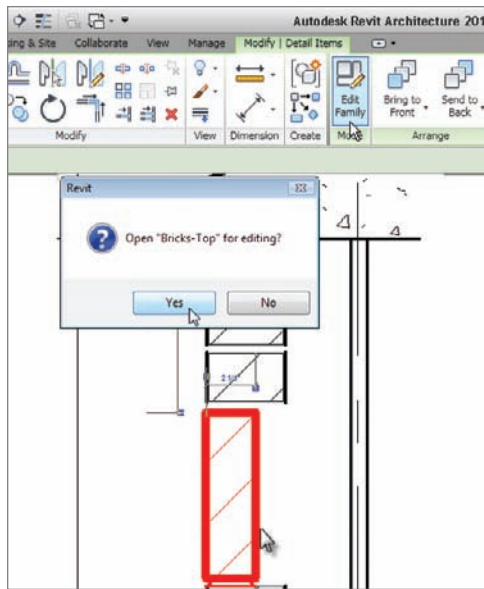

FIGURE 12.16 Click Yes to open Bricks-Top for editing after selecting the Bricks-Top family.
3. On the Modify | Detail Items tab, click the Edit Family button, as shown near the top of Figure 12.16.